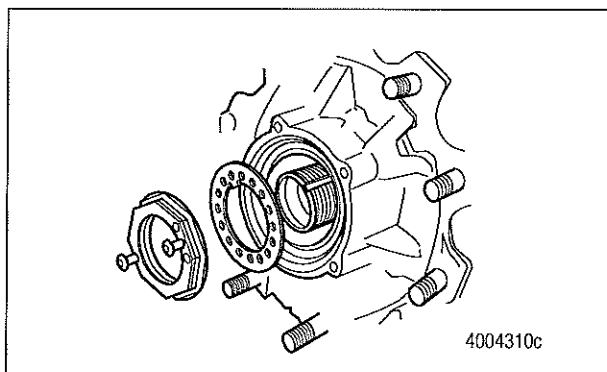

Figure 6
8. Wear gloves to protect your hands from sharp edges on the retaining washer. Remove the spindle nut and retaining washer. Thoroughly clean them and place them in a clean area. They will be reused during reassembly. Figure 6.